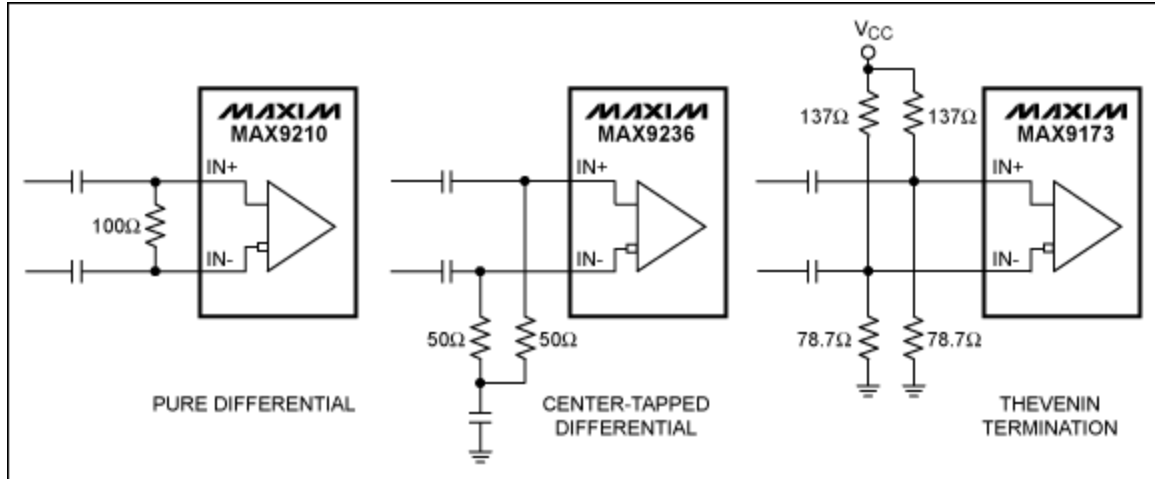

Figure 3. LVDS termination circuits.
The termination topology can be selected from three primary circuits: (1) pure differential; (2) center-tapped differential; and (3) Thevenin termination. **Figure 3** shows these three circuits.
If the LVDS receiver is not internally biased and if the input signal is AC-coupled, a Thevenin termination must be used. Select the resistors so that the Thevenin impedance on each line is 50Ω and that the Thevenin voltage on each line is 1.2V. The values in Figure 3 work for a 3.3V supply.